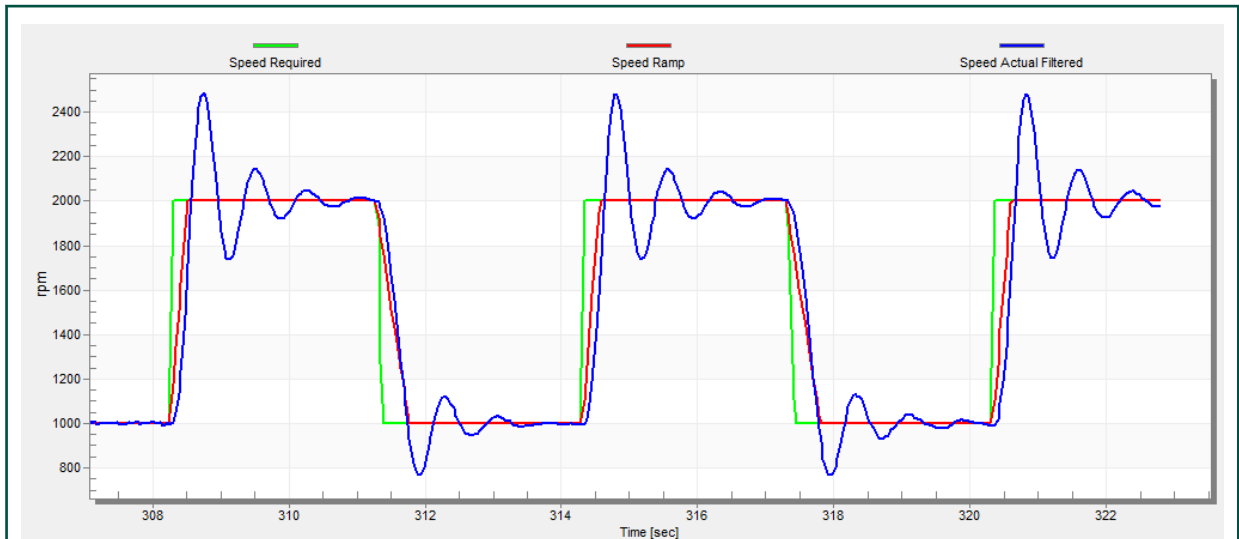

Figure 35. Speed controller response—SL_Kp value is low, Speed Actual Filtered greatly overshoots
- The “SL_Kp” value is low, the “Speed Actual Filtered” greatly overshoots, and the long settling time is unwanted (see Figure 35).